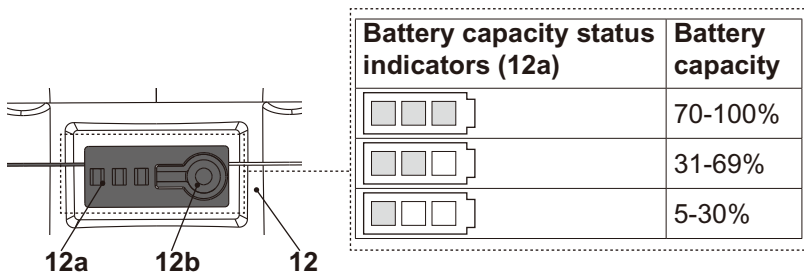

Fig. 5
The battery pack (12) is equipped with the battery capacity indicators (12a) which are used to give an indication of the battery pack's remaining capacity. Press the battery capacity button (12b) to check battery capacity (Fig. 5).